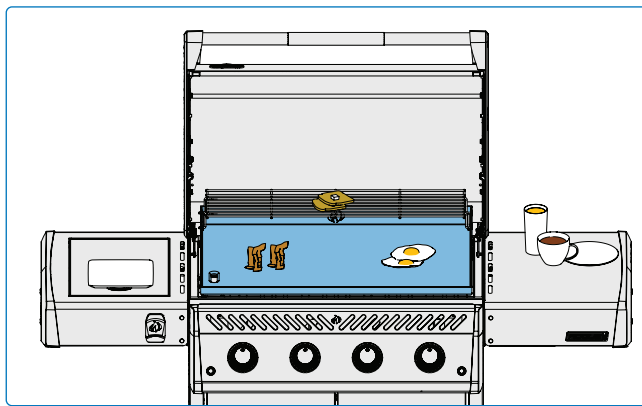

Fig. 9
- Use the two cooking zones to cook a variety of foods at different temperatures. **(Fig. 9)**